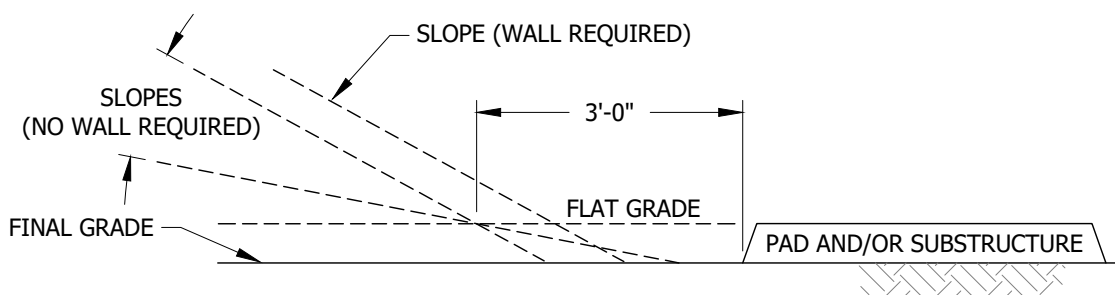

FIGURE 1
- (A) WALLS ARE REQUIRED WHEN SLOPE COMES WITHIN 3 FEET OF A FLAT GRADE ADJACENT TO A PAD OR SUBSTRUCTURE. THE FLAT GRADE IS ESTABLISHED FROM THE TOP OF A PAD (SEE FIGURE 1).
- (C) MINIMUM OPERATING CLEARANCE REQUIREMENTS SHALL PREVAIL WHEN HOT STICK OPERATION OF LOADBREAK EQUIPMENT IS REQUIRED. (a)
- (D) WALLS ARE REQUIRED WHEN SLOPE COMES WITHIN 2 FEET OF A FLAT GRADE ADJACENT TO A PAD OR SUBSTRUCTURE. THE FLAT GRADE IS ESTABLISHED FROM THE BOTTOM OF A PAD.
- (F) SAFETY FENCING SHALL BE INSTALLED WHEN REQUIRED BY CITY OR COUNTY CODES.